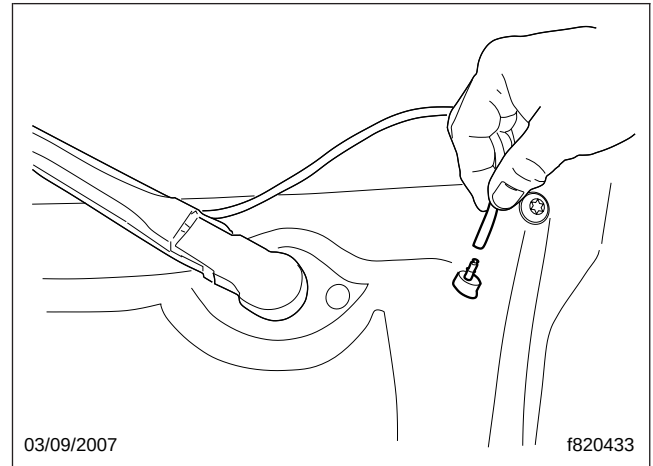

Fig. 2, Disconnecting Wiper Arm Washer Hose
- 6.1 Disconnect the windshield washer hose of the wiper arm from the fitting on the rain tray; see Fig. 2.